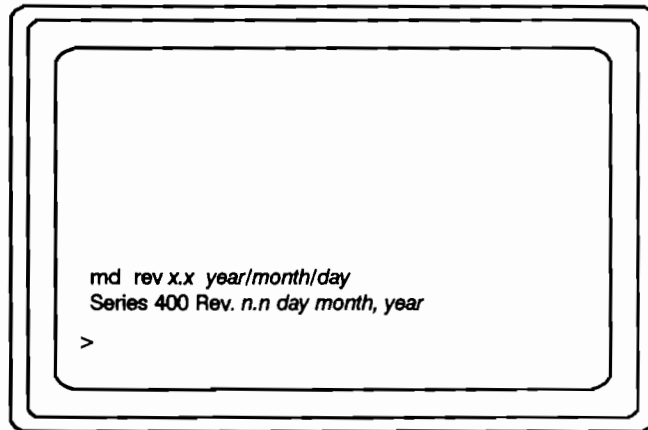

Figure 10-28. Returning to the MD Prompt
7. The system returns to the MD level as shown in Figure 10-28.